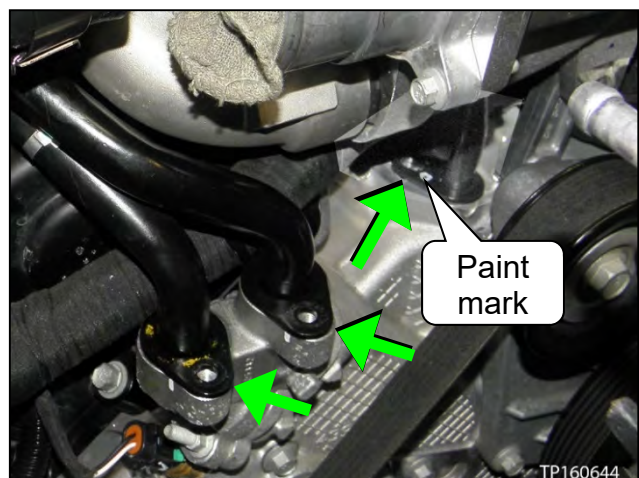

Figure 87
- For additional reference, also see page 37, Figure 87.
- The EGR bypass coolant tube and both water transfer connection tubes are properly positioned and inserted (see next page, Figure 87).
28. Install the bolts for the EGR bypass coolant tube and both water transfer connection tubes (see Figure 87).